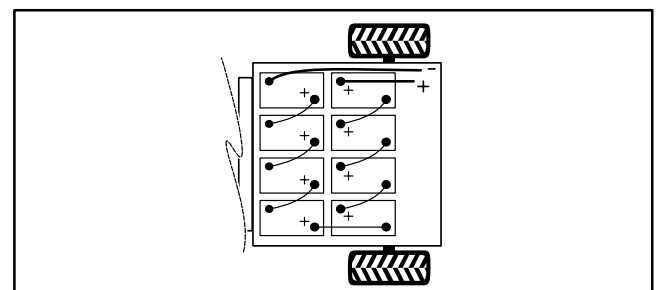

Figure 45
3. Using case loops on battery tops as lifting points, set batteries on the battery supports with battery posts properly orientated (Fig. 45). Make sure that battery rods are positioned to allow installation of retainers.